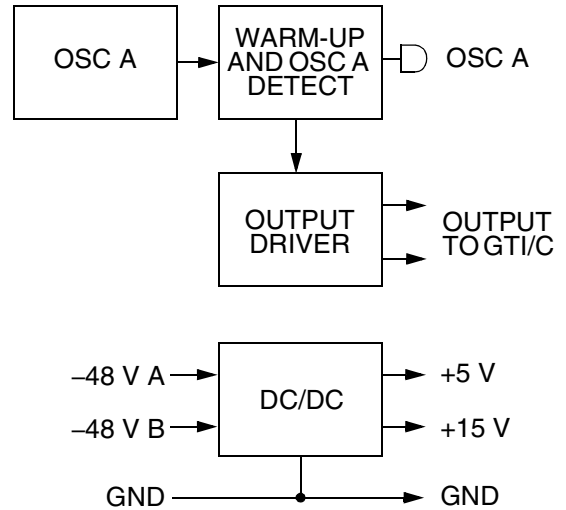
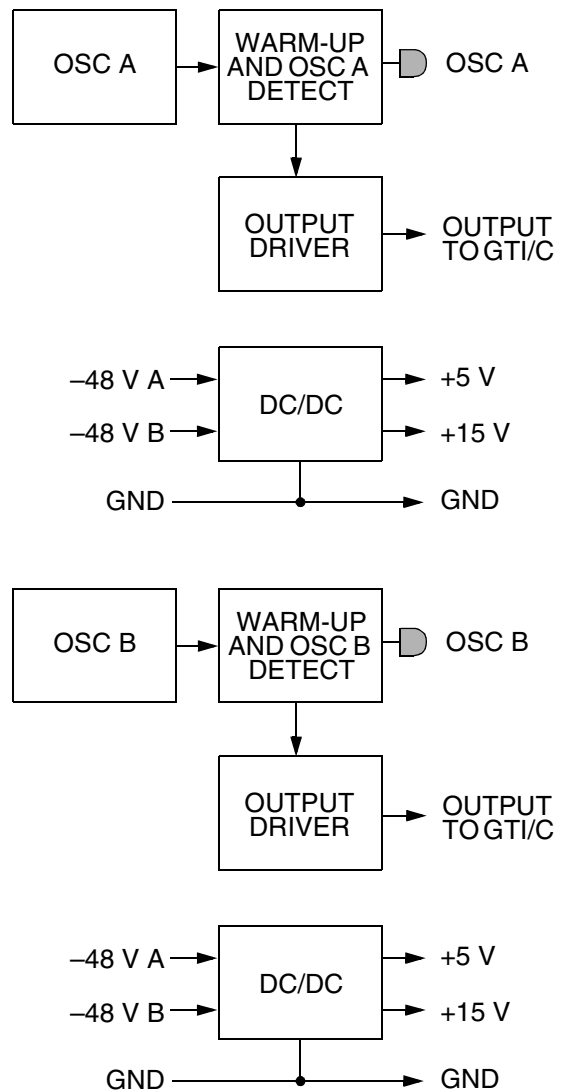

Figure 7. LOU-1/C Block Diagram
Figure 8. LOU-2/C Block Diagram
3.16 Two LOU/C cards are available: LOU-1/C and LOU-2/C (see Figure 7 and Figure 8 for block diagrams). The LOU-1/C contains one oscillator with two parallel outputs, and the LOU-2/C contains two independent oscillators, each with one output. If using the LOU-2/C card, oscillator A is the preferred clock. Oscillator B becomes the preferred clock only if oscillator A fails.